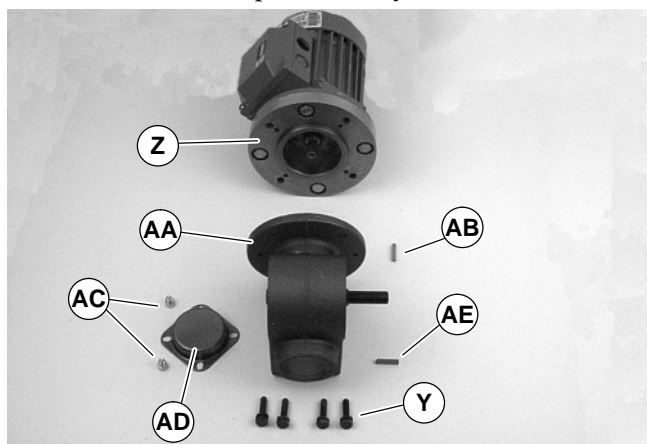

Figure 16
5. Remove four screws (Y of Figure 16). Detach motor with adapter flange (Z) from gear reducer (AA). Retain motor output shaft key (AB).
**NOTE:** Allow Loctite® Adhesive to cure for one (1) hour prior to starting conveyor.
10. With key (AB of Figure 16) in keyway, slide motor with adapter flange (Z) and gear reducer (AA) together. Install screws (Y) and tighten.